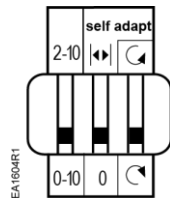

Figure 14. OFF Position (Factory Setting).
To use the entire 0(2) to 10V input signal to control the mechanically limited range, see Figure 14 for setting self-adaptive features.